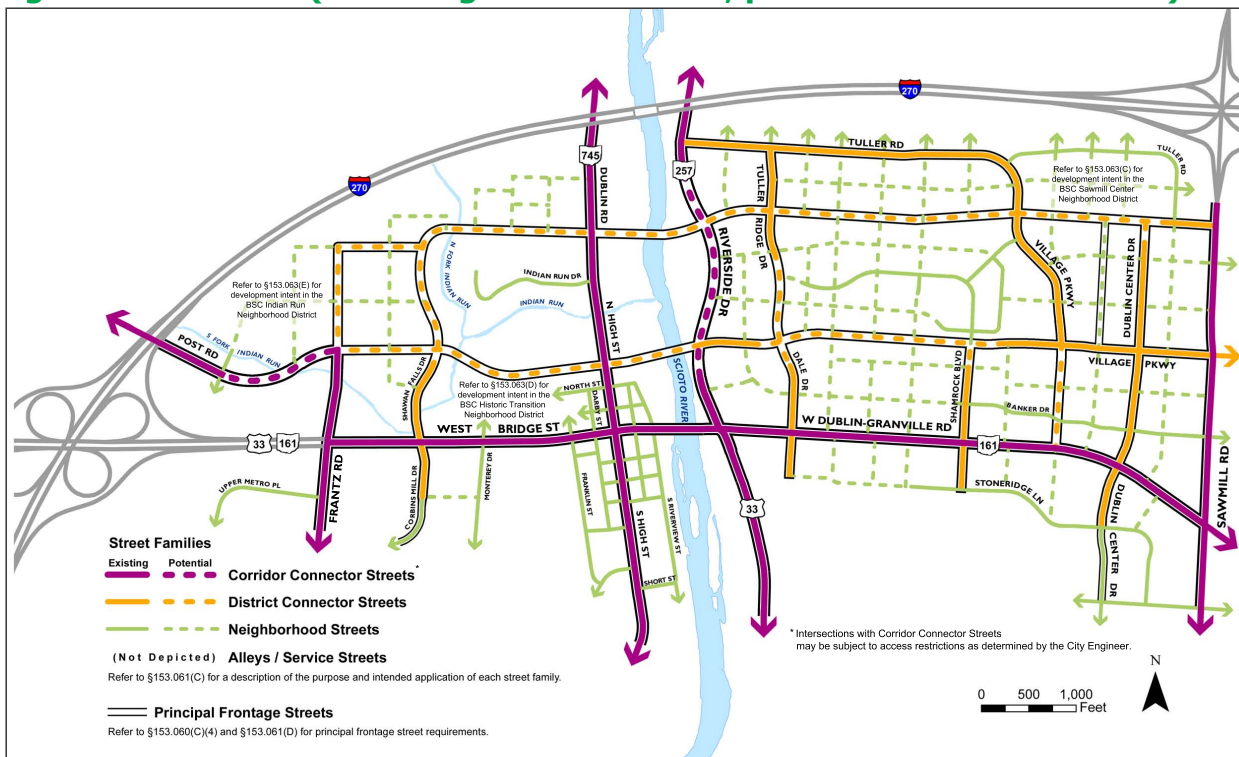

Figure 5.2A--Bridge Street District Street Network Map
- In the mixed-use context of the Bridge Street District, Corridor Connector and District Connector rights-of-way are typically of a greater width than Neighborhood Streets, and have greater potential to accommodate small cell facilities and wireless support structures. Corridor Connector and District Connector Streets are designated in purple and orange respectively in Figure 5.2A